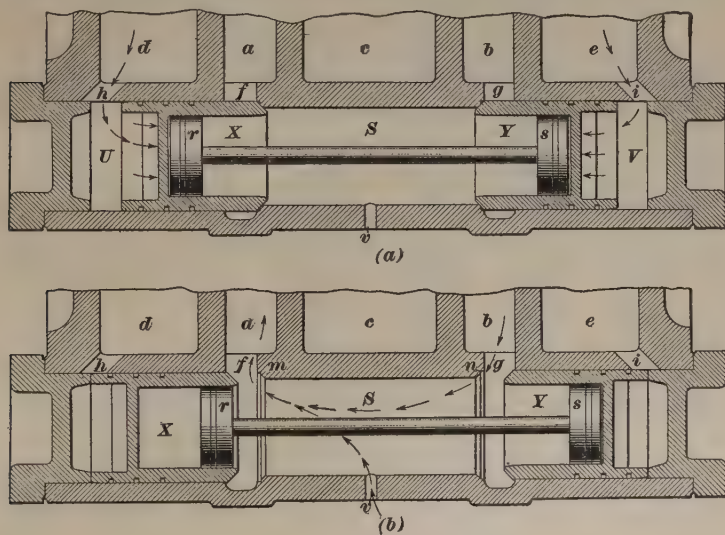

FIG. 16
Sectional views of the overpass valves are given in Fig. 16 (*a*) and (*b*), in which (*a*) shows the position of the valves when steam is being used, and (*b*) shows the position of the valves when the locomotive is drifting with steam shut off. Fig. 16 is not a strictly accurate section of the parts and passages shown, but is so constructed as to show in effect just what the connections are. Referring to the figure, *a* and *b* represent the steam passages that lead from the slide-valve
27. Drifting.—It is very important that the reverse lever of an engine be carried near the corner when drifting with the throttle closed. The overpass valves of the Richmond type are of great service when drifting, and they should be kept in good working order. Failure of the overpass valves to operate will be manifested by a blow through the vent *v* in the overpass valve casing, Fig. 16, when working steam, and by a disagreeable thumping when the engine is drifting with throttle closed.